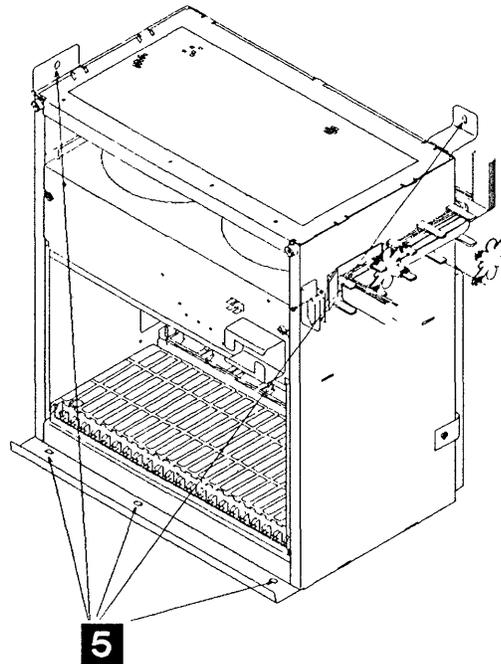

Figure 4-101. Basic Board Enclosure
20. Remove the 5 screws **5** which maintain the enclosure to the frame. Refer to Figure 4-101, then slide the enclosure out of the machine taking care not to damage the cables. Place the enclosure on a safe working area.
9. Fasten it to the frame with the 5 screws **5**. Refer to Figure 4-101 on page 4-72.